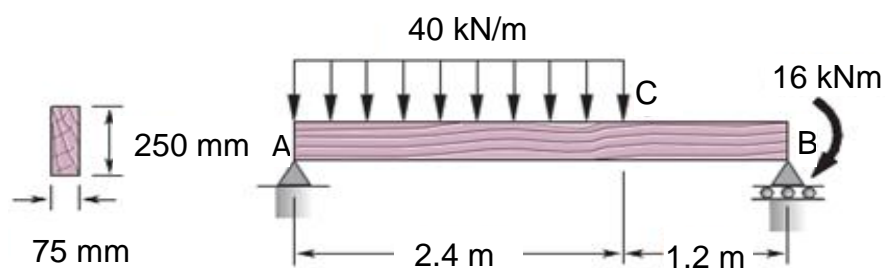

Figure 4
3. A 3.6 m long simply supported timber beam AB is to carry the distributed load and concentrated moment as shown in **Figure 4**. The cross-section of the timber beam is 75 mm x 250 mm. For the timber beam with loading shown in **Figure 4**,